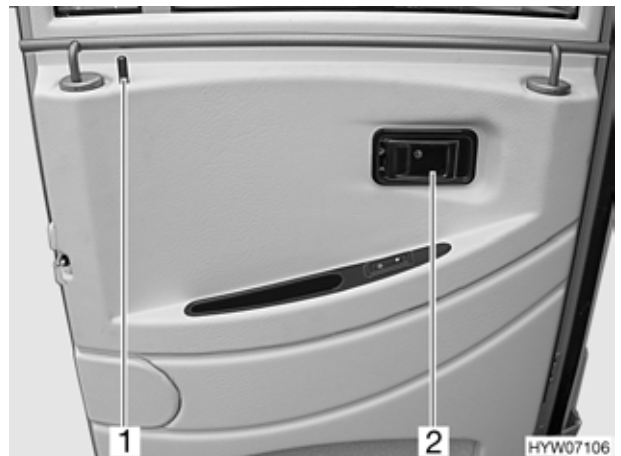

Fig. 28 Door lock of driver's door, inside
- Pull on the handle (Fig. 28,2). The lock is unlatched.
- Push the safety knob down (Fig. 28,1).